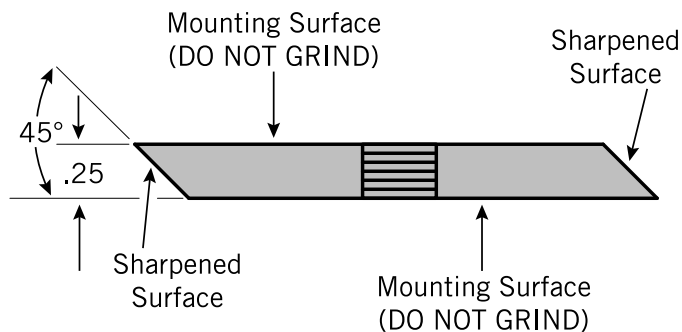
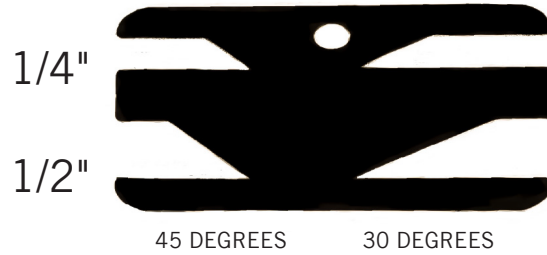

Figure 5.3, Chipper Blade Surfaces
Figure 5.4, Blade Angle Gauge Plate
2. Regrind the angled edge of the chopping blades to 45 degrees (Figure 5.3). Use the blade angle gauge plate when sharpening the blades to achieve the proper angle (see Figure 5.4).